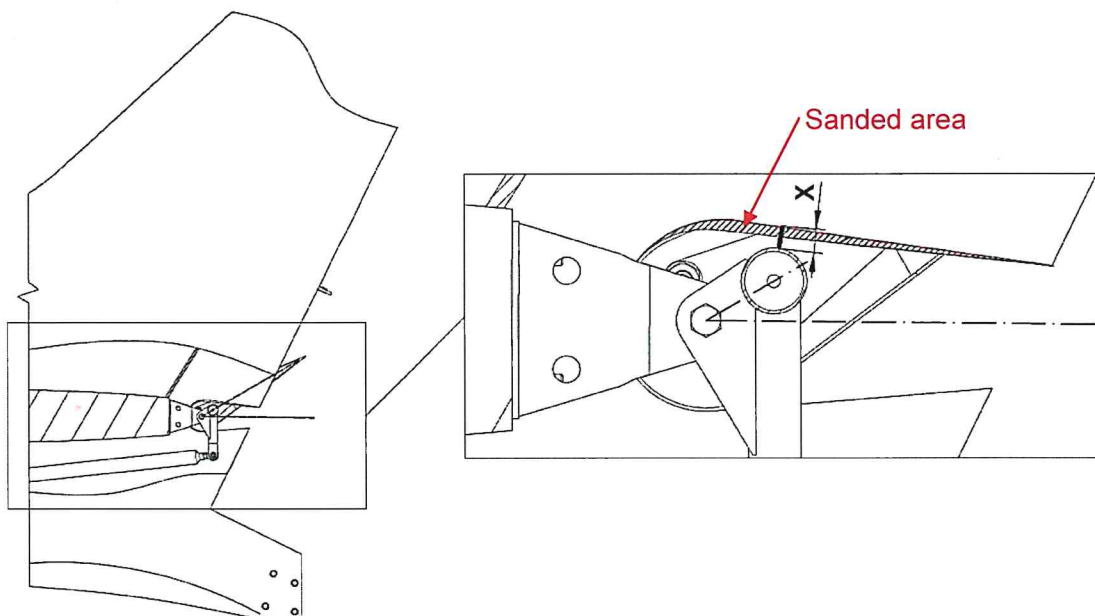

Fig. 1
2. Visually inspect the gap "X" between the elevator root hinge assembly and the upper cut-out edge of the vertical stabilizer skin (Fig. 1). The minimum gap "X" is 2 mm.
5. Sand the edge of the vertical stabilizer skin using sandpaper (grit 120) until the prescribed gap "X" is ensured (Fig. 1).